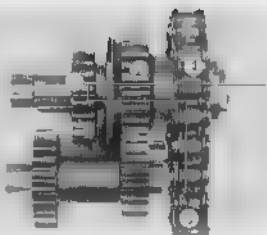

Fig. 3.114 High speed range
• High speed range (Fig. 3.114,